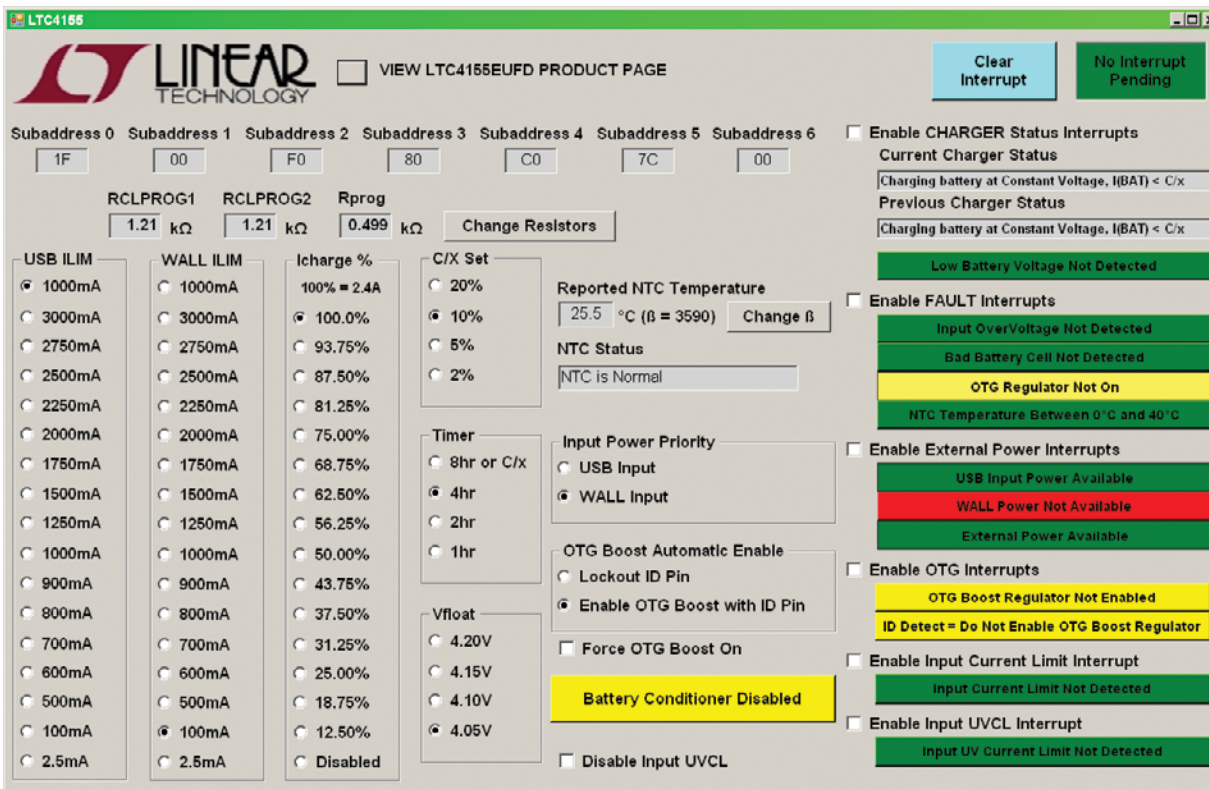
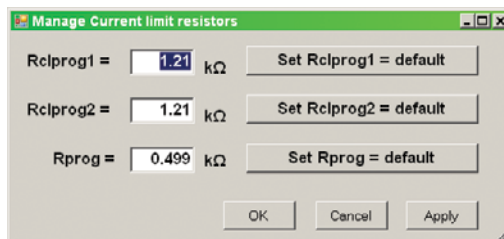

Figure 3. LTC4155 Main Form
Figure 4. Manage Current Limit Resistors Form
2. Start the Linear Technology QuickEval™ program. Download and install the latest version of the QuikEval program from the following weblink: <http://www.linear.com/designtools/software/>. This program should automatically detect the presence of the LTC4155EUFd demo board (DC1674A-A) and activate the appropriate GUI, as seen in Figure 3.
The DC1674A-A GUI is composed of three forms, the LTC4155 form (Figure 3) that is brought up by the QuickEval program, the Manage Current Limit Resistors form (Figure 4), that is brought up by pressing the “Change Resistors” button on the LTC4155 form, and the Manage β Value form (Figure 5) that is brought up by pressing the “Change β ” button on the LTC4155 form.